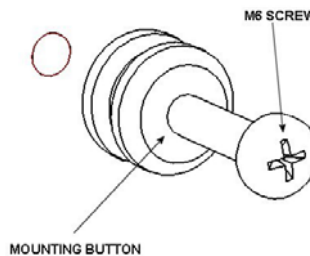
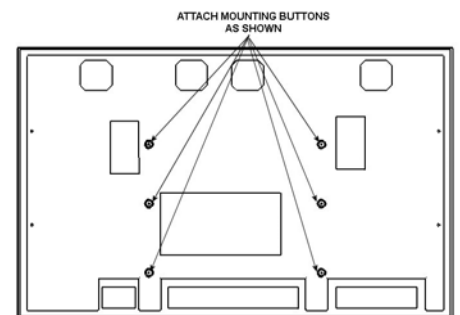

Figure 3
Figure 4
2. Attach mounting buttons to plasma using six M6 x 25 cap screws (see Figure 3 and Figure 4).
5. With the aid of another person, lift the plasma display up to the mount, align the mounting buttons on the plasma with the teardrop slots in the mount, and set the plasma into place (see Figure 4).